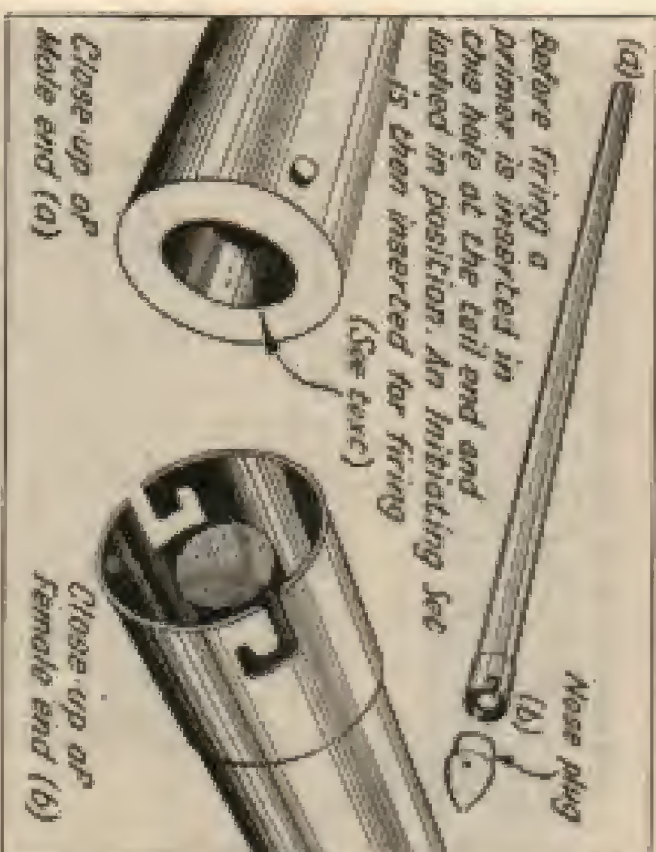

Fig 18. 2 in. Bangalore torpedo, Mk 1
For walls over 9 in and up to 18 in thick use a continuous line of grenades placed flat end to flat end. Every other grenade should be initiated with cordtex as already described. It is emphasized again that such charges are NOT sufficient for reinforced concrete walls. Fig 18 shows a thick masonry wall with a meeting charge of four slabs of 60 per foot run.
1. Description (see Figs 18 and 19)
This is a prepared charge for attaching wire contacts. The torpedo now issued to infantry pioneer platoons is the Torpedo Bangalore 14-in, Mk 1 (see Fig 18). It consists of a light 14-in steel tube filled with HX and is supplied in 6-ft lengths weighing 14 lb each. Each tube has a male and female end with a single spring clip joint so that it can be slide up into the length required. A detachable bullet-shaped nose fits on to the front end of the torpedo to assist movement along the ground. The maximum length which can be conveniently pushed by hand is 100 ft.
The 2-in torpedo formerly issued weighed 25 lb per 5-ft length. Owing to its weight it has now been replaced by the 14-in. The 2-in torpedo may still be met in training and is illustrated in Fig 18.